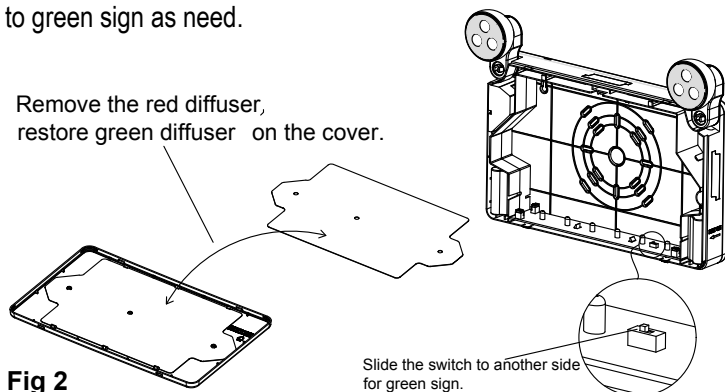

Fig 2
2. This product default setting is red exit sign, can change to green exit sign per need(see Fig 2).
3. This product default setting is red exit sign, can change to green exit sign per need(see Fig 2).